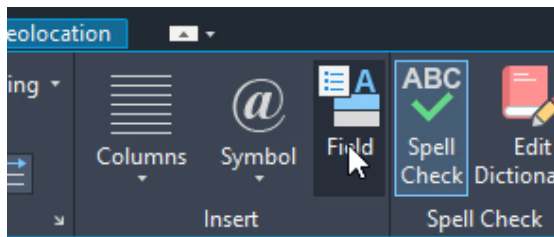

Figure 24: Choosing Field from the Insert panel of the contextual Text Editor Ribbon tab (Multiline Text Editor).
1. Add an MTEXT entity to your titleblock. Choose Field from the Insert panel of the contextual Text Editor Ribbon tab (see Figure 24).